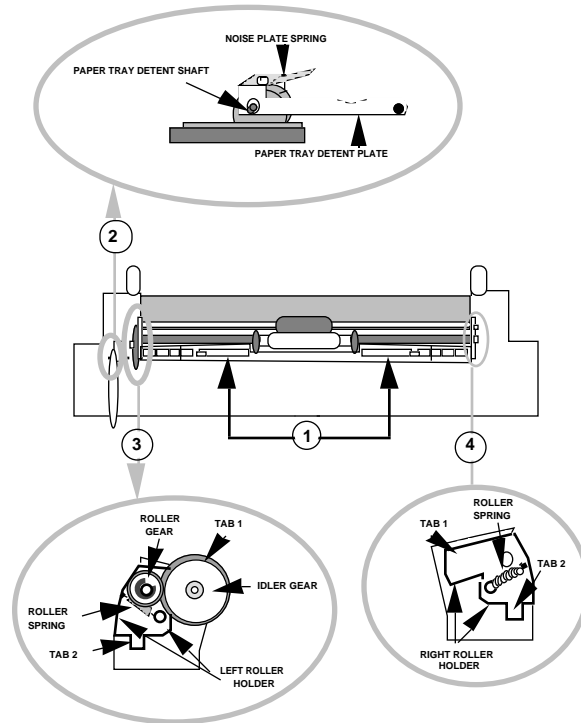

FIGURE 8
2. Position the paper tray as shown in Figure 8, the main drawing. Pry off the paper tray locks (Figure 8, #1). Using a small flathead screwdriver, pry off the upper paper tray (the hinges are part of the upper paper tray). The tray snaps onto the tabs. Some of the tabs may break off as you remove it.
3. Locate the paper tray detent plate on the left side (Figure 8, #2). Remove the paper tray detent shaft. Lift the paper tray detent plate off the lower paper tray. Set the parts aside for later use.
4. Gently pull the idler gear, on the left side of the tray, toward you to release tab 1. At the same time, insert a jeweler's screwdriver under tab 2, and slide the left roller holder free of the tabs (Figure 8, #3).
5. Using a jeweler's screwdriver, gently pry loose tab 1 on the right side of the tray. Pry loose tab 2 and lift the right roller holder free (Figure 8, #4).
7. Remove the roller springs (Figure 8, #3 and #4) from both sides of the assembly. The springs hold the roller shaft and the eject shaft in place.